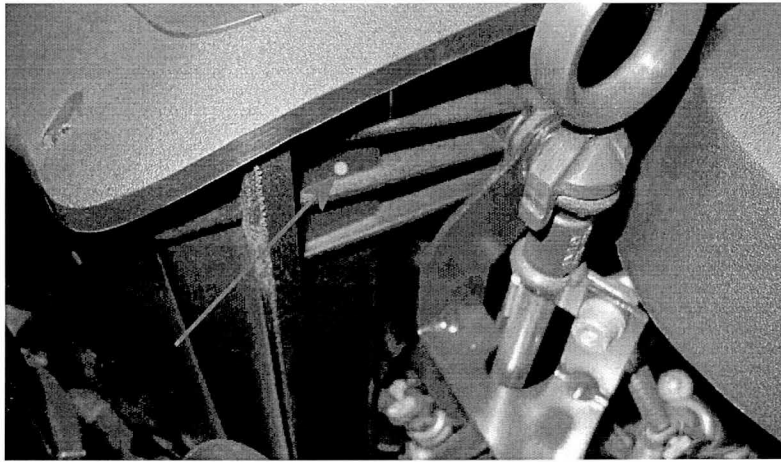

Figure 1
**ATTENTION:** Before commencing with this procedure please check the left hand air filter housing for a yellow paint mark (Figure 1) the paint mark signifies that the vehicle has already received a similar software update for a separate issue.